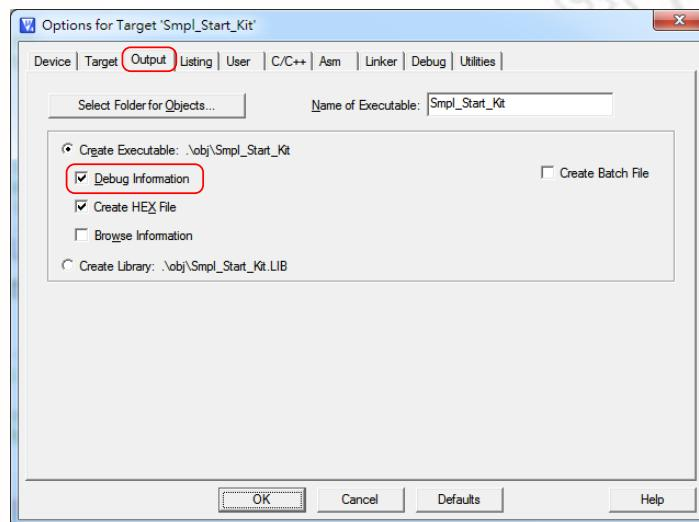

Figure 4-9 Enable Debug Information for Keil RVMDK
- Step 3: Invoke **Project → Options for Target → Output**, and enable the **Debug Information** option, as shown in Figure 4-9.